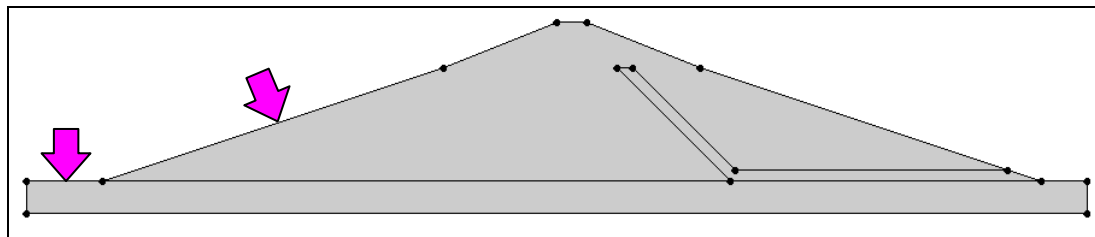

Figure 6. Assigning the Head Arcs
2. Double-click on one of the arcs on the upstream (left) side of the dam, as shown in the Figure 6 below.